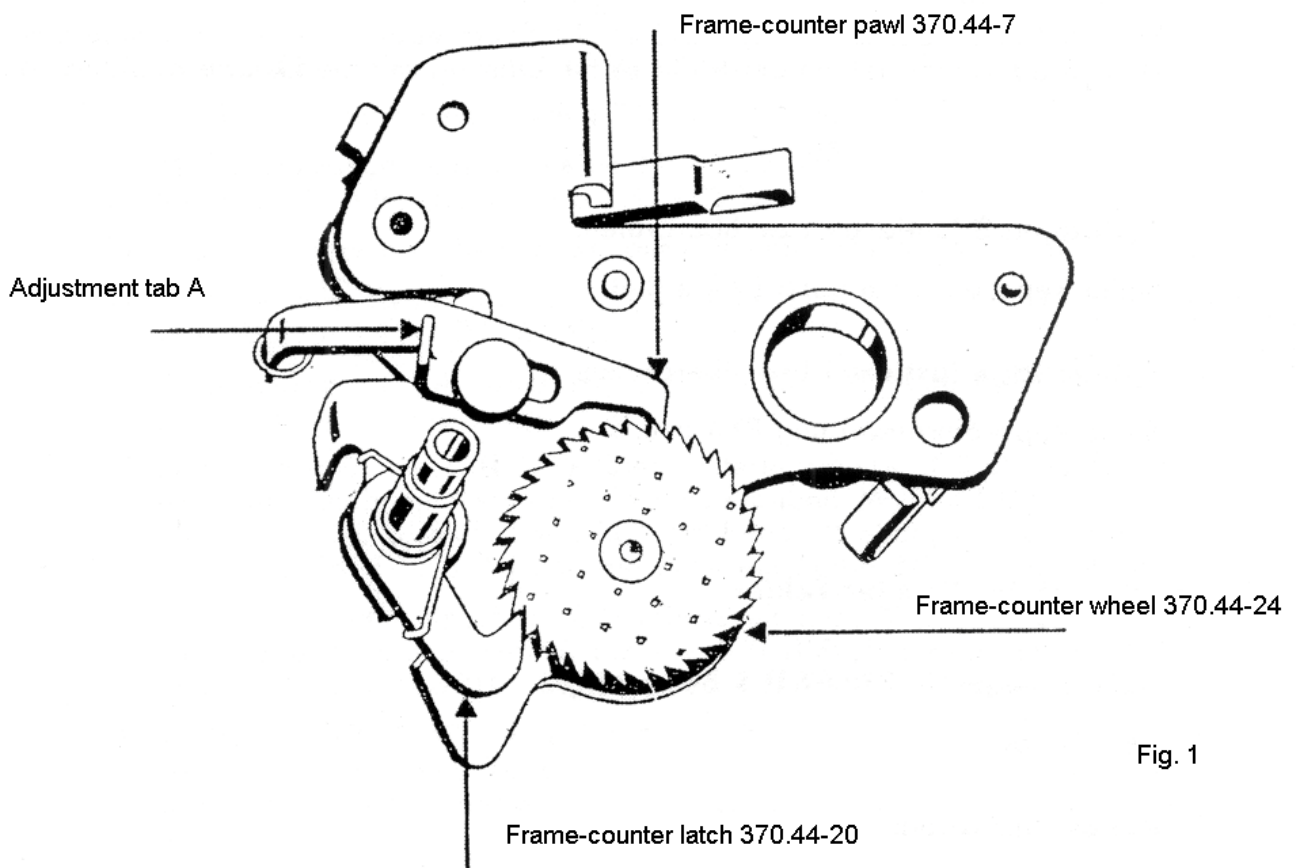

Fig. 1
6. Frame-counter adjusting (see Fig 1).